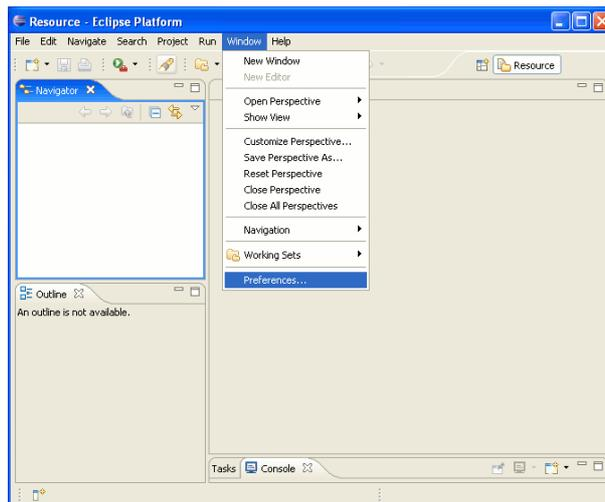
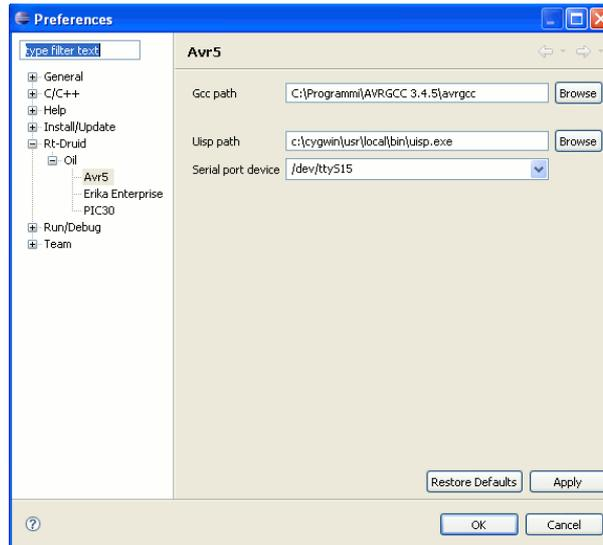

Figure 2.2: Go to the “Preference” menu.
Figure 2.3: Select paths for compiler and assembler.
To compile an Erika Enterprise application, the development environment needs to be configured to correctly recognize the AVR-Gcc compiler. For doing so, please go to the “Preference” menu, as shown in Figure 2.2, and find the “RT-Druid/Oil/Avr5 Configurator” form as depicted in Figure 2.3. The first textbox, labeled `Gcc path`, refers to the installation directory of the AVR-Gcc compiler. The second and third textboxes are useful if you are using a development environment based on the Crossbow Mib5x0 board. In particular, the second textbox, labeled `Uisp path`, refers to the installation directory of the uisp programmer for Crossbow Mib5x0 board, and the third textbox, labeled `Serial port device`, refers to the COM serial port where the board is attached.
**Warning:** The install directories specified in the two textboxes of Figure 2.3 does *not* include the `bin` directory!